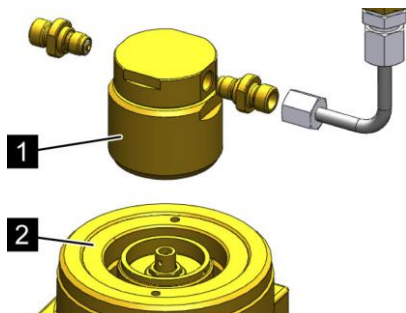

Fig. 86: Mounting the release device
4. ➔ Screw the release device (Fig. 86/1) onto the valve (Fig. 86/2) from above, or screw on the electrical release device and tighten with 50 ± 15 Nm (36.9 ± 11.1 ft-lb) until it metalically rests on the valve.